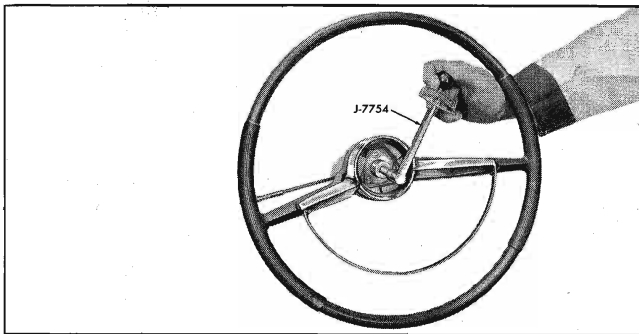

Fig. 9-5 Checking Steering Gear Adjustment
4. With inch pound torque wrench attached to a $\frac{5}{8}$ "-12 point socket, measure and record at least 30° off center (Fig. 9-5).